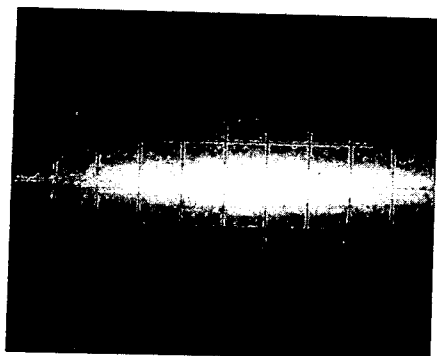

Figure 5-4. Waveform at A12Q11 Source.
- g. Adjust potentiometer A12R1 until dc level of displayed waveform is 0mV  $\pm$ 10mV. Refer to Figure 5-4 which shows well-adjusted waveform.